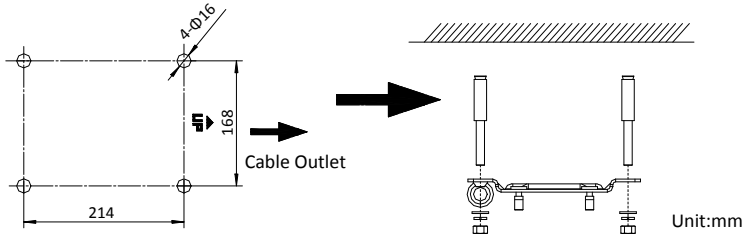

Figure 2-10 Install the Installation Plate
2. Insert the flag washer and the spring washer. Then tighten the four screws to secure the installation plate as shown in Figure 2-10.